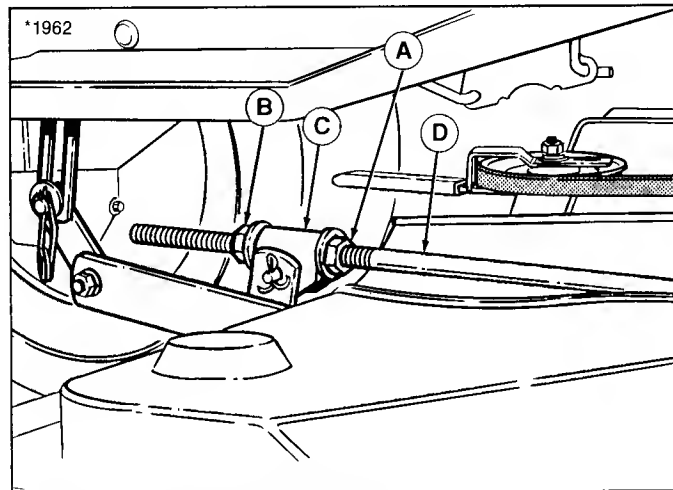

Figure 30. Front-To-Back Leveling
4. Turn the blades front-to-back. On 44" deck, measure the distance from the ground to the front tip of the center blade, and from the ground to rear tips of left-hand and right hand blades. On 38" deck, measure the distance from the ground to front tip of the right blade, and from the ground to the rear tips of the left and right hand blades. Front tips should be 1/4" higher in front. For adjustment, refer to figure 30.
- a. To raise front of mower deck, loosen front nut (A) and turn rear nut (B) against bracket (C) to shorten rod (D).
- b. To lower front of mower deck, loosen rear nut (B) and bracket (C) will move backwards to lengthen rod (D).
- c. Recheck measurement before tightening front nut (A) against bracket.